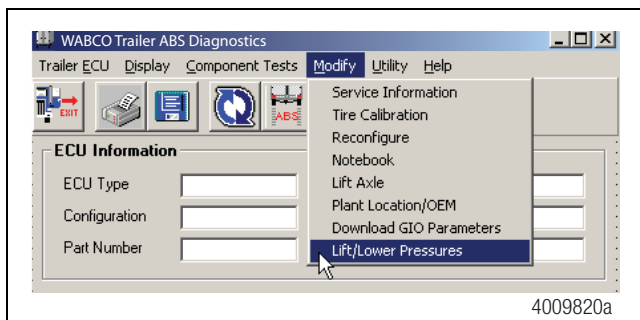

Figure 9
1. Activate TOOLBOX™ Software on your PC. Select the **Lift/Lower Pressures** option from the **Modify** pull-down menu. Figure 9.